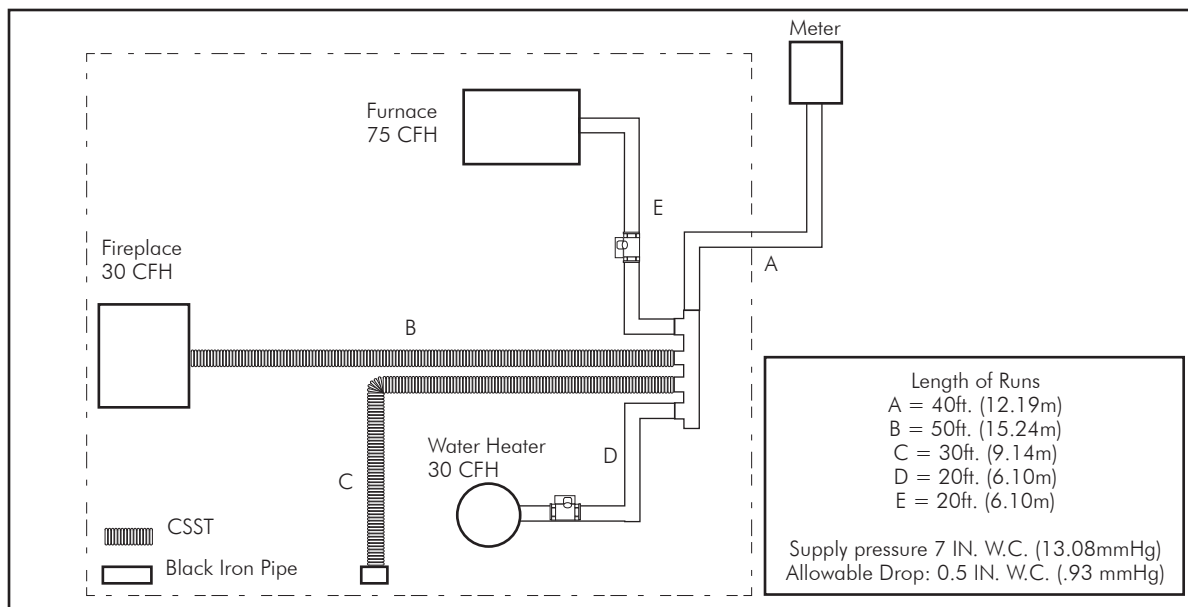

Fig. 3-6 Black Iron Pipe and CSST Systems
1. When adding DIAMONDBACK™ to an existing black iron pipe system use the longest length method explained earlier in this chapter. In FIG. 3-6 the home has an existing supply line of one-inch black iron pipe. The supply pressure is 7 in. w.c. (13.08mmHg) with an allowable drop of 0.5 in. w.c. (.93mmHg).
2. To size Section A, determine the total load of the home (170 CFH) and the longest run, 90 ft. (27.43m). Table N-8 (Page ??) shows that 1" (25) dia. pipe has a capacity of 205 CFH at 90 ft. (27.43m) The 1" (25) dia. pipe (Section A) will handle the load.
3. To size Section B, determine the load of the fireplace (30 CFH) and the length of the run, 90 ft. (27.43m) Table N-1 (Page ??) shows the suitable size DIAMONDBACK™ is 1/2" (13).
4. To size Section C, determine the load of the quick connect (25 CFH) and the length of the run., 70 ft. (21.34m) Table N-1 shows the suitable size DIAMONDBACK™ is 1/2" (13).
**Note:** If the supply pressure was raised by the gas utility to 10 in. w.c. (18.68 mmHg) with allowable pressure drop of 3 in. w.c. (5.60mmHg), table N-3 (Page ??) shows Sections B & C could both be run with 3/8" (10) DIAMONDBACK™ CSST.